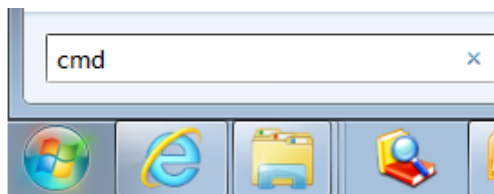

Figure 4-2 Typing 'cmd'
1) Click the  icon at the lower left corner, and type 'cmd' in the  textbox, as shown in Figure 4-2.